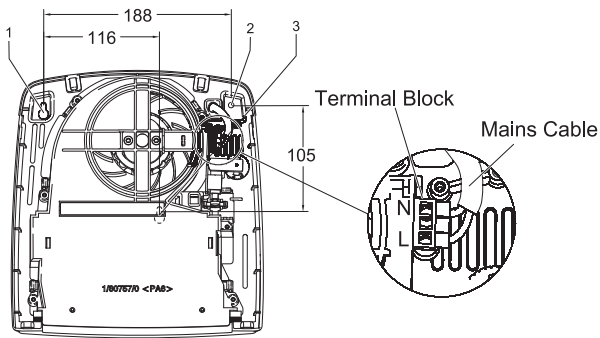

Fig. 2
The appliance is secured to the wall with three screws, two through keyhole slots '1' & '3' and one through a hole '2' to hold the appliance firmly in position (see **Fig. 2**).
2. Mark the position of the two keyhole slots '1' & '3' (see Fig. 2 for dimensions) on the wall and drill and plug for the two suitable screws.
7. Make electrical connections to the terminal block ensuring that the live connection is made to the terminal marked 'L' and the neutral connection to the terminal marked 'N' (see Fig. 2 exploded view).